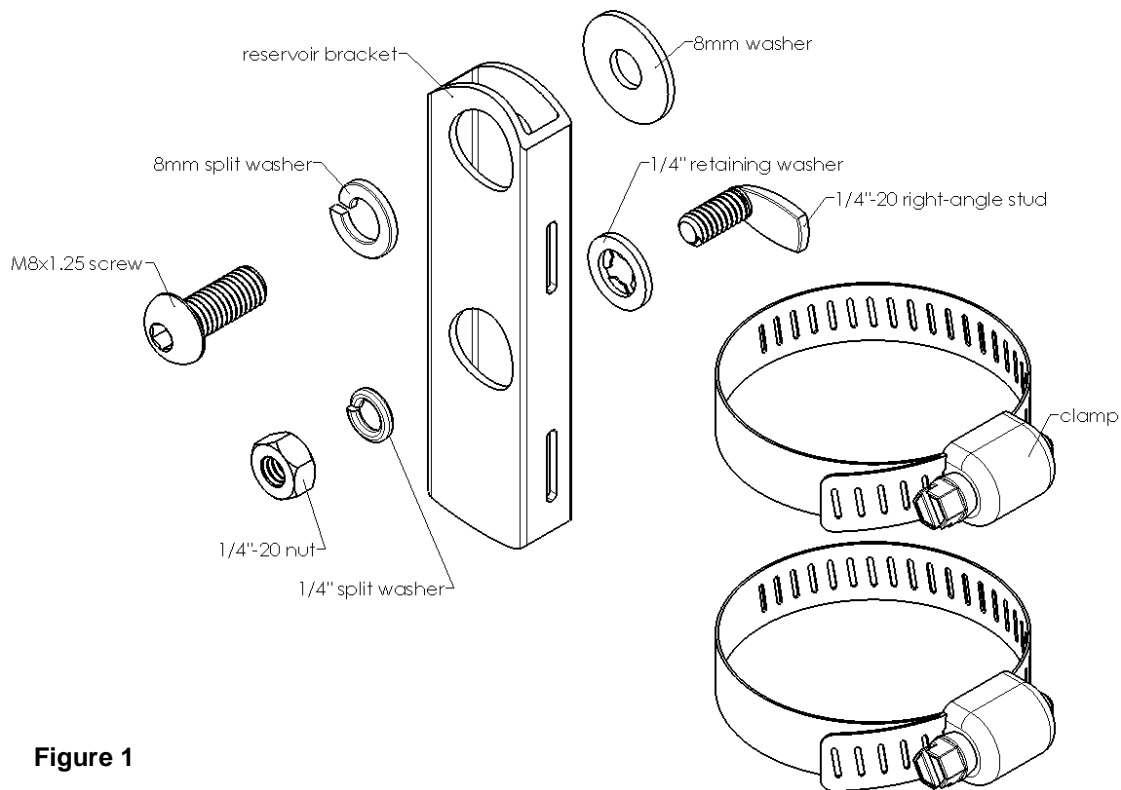

Figure 1
- B. A mount kit is included to allow the remote reservoir to be attached to the vehicle frame rail. This kit is depicted in Figure 1.